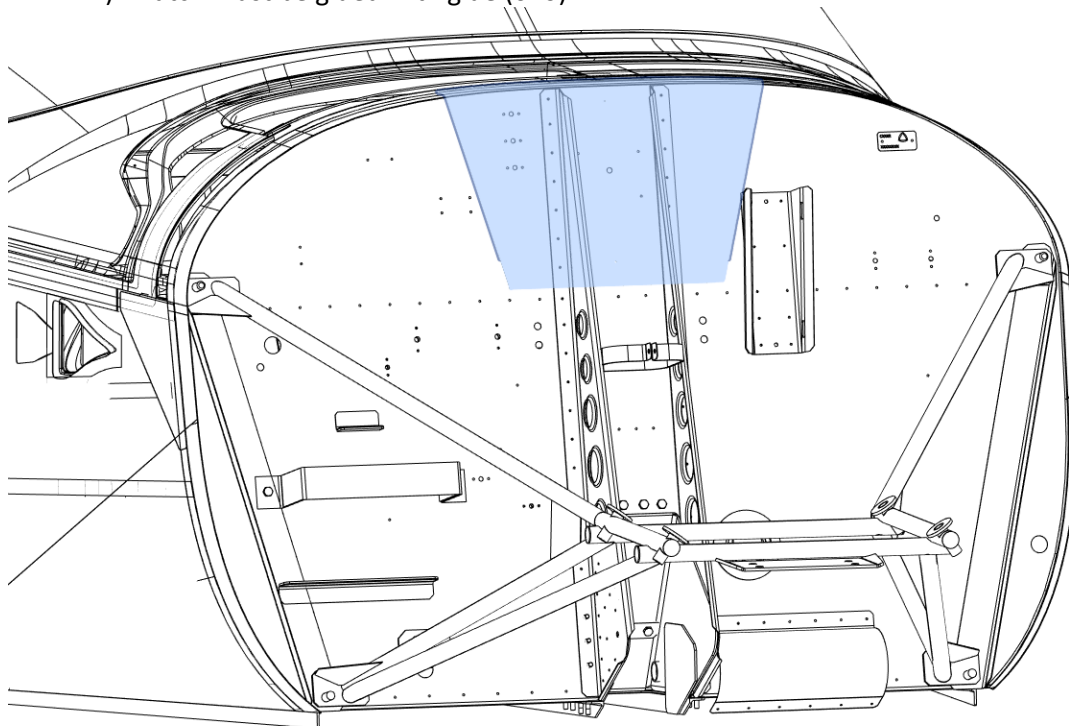

Fig. 4: Patch
- 6) Insert and attach the patch (blue area) from inner side of firewall. See Fig. 4.
- 7) Patch must be glued with glue (010).